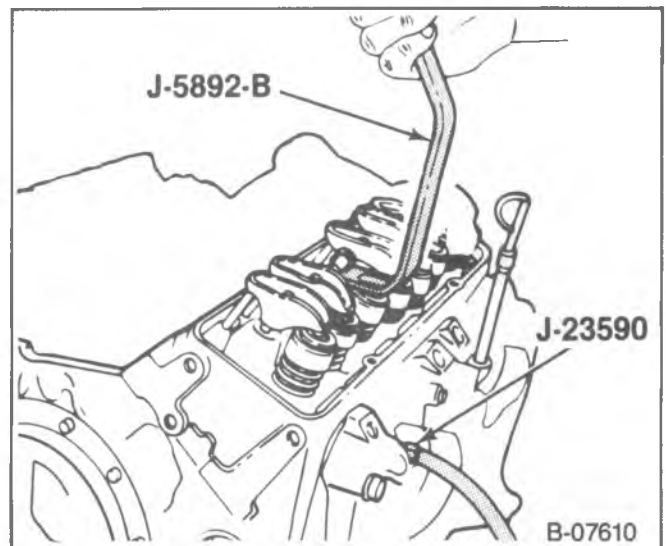

Figure 6—Compressing the Valve Springs
- Install a rocker arm nut (figure 6).
- Use J-5892-B to compress the valve spring (figure 6).
5. Cap (21) and/or rotator (28), shield (22) and spring (26) with damper (25).
6. O-ring seal (23).
7. Seal (24) (intake valve only).
3. New O-ring seal (23) and valve keepers (20).
- With air pressure applied to the cylinder with J-23590, compress the spring with J-5892-B (figure 6).